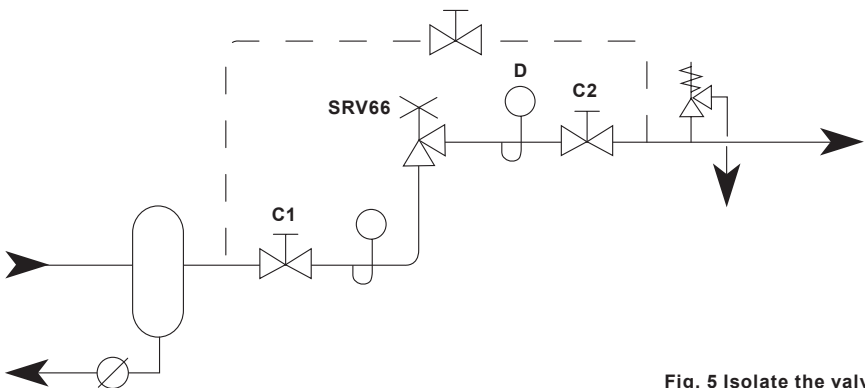

Fig. 5 Isolate the valve
- Isolate the valve, first closing the upstream isolating valve (C1) and then the downstream isolating valve (C2). Check that the pressure is zero (D) and allow the valve to cool (see Figure 5).
- Release the compression on the control spring (5) by turning the adjustment screw (4) anticlockwise.
- Lift off the spring housing (3) and the control spring (5) by first releasing the 'V' band clamp screws (12) and then removing the 'V' band (9).
- Grip the flats visible on the main valve end and undo the lock-nut (7) clamping the diaphragm (10) and diaphragm plates (8). Please note: that when refitting the diaphragm plates the side with the radius should abut the diaphragm face.